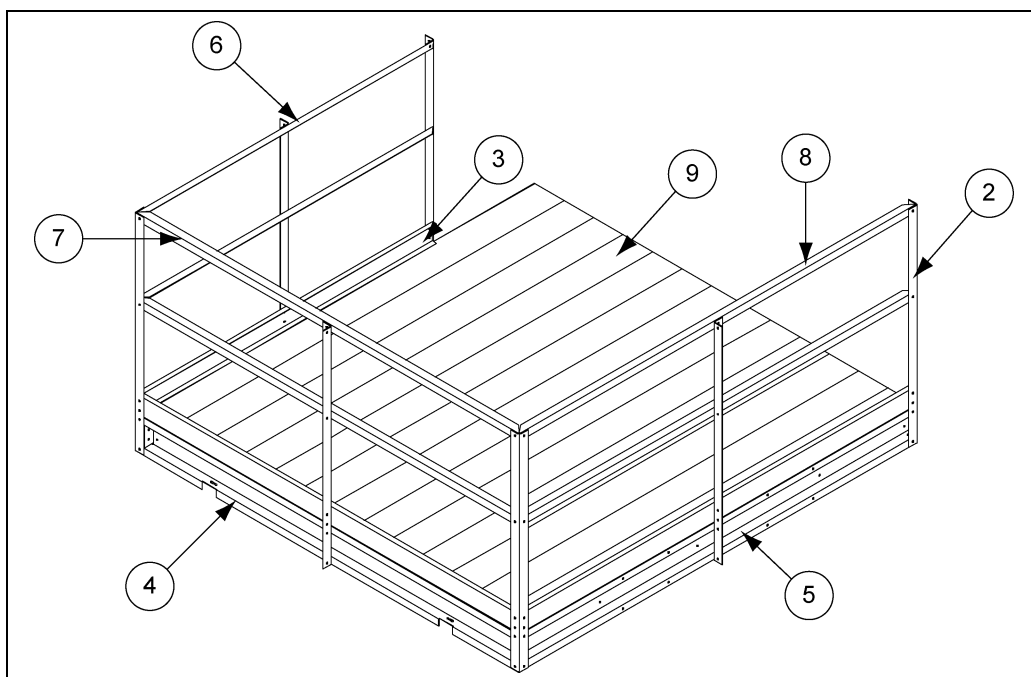

Figure 9T
When bolting stiffener to sidewall at locations where platform supports are to be attached, use twenty five (25) 5/16" x 1-1/4" bin bolts, heads to inside. Start 12" below horizontal seam of second and third rings from top. (See *Figure 9T*.)